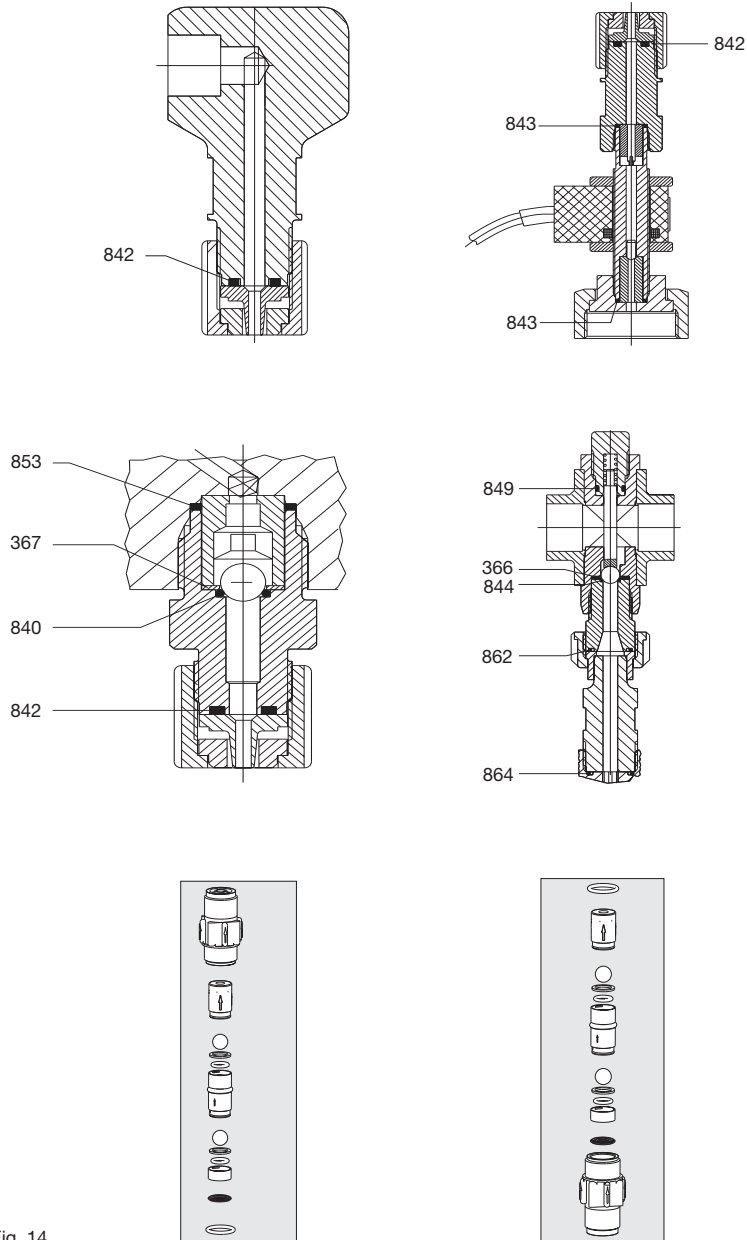

Fig. 14
- Compression springs of injection valves (see Fig. 14 )